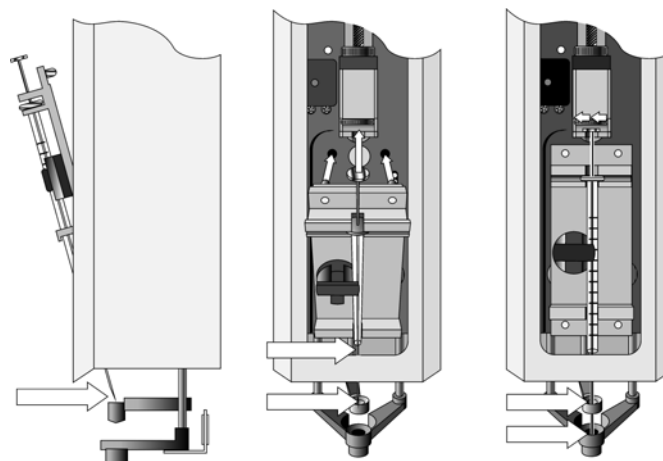

Figure 25. Installing and Removing a Syringe
- 3 If necessary, loosen the plunger retaining screw in the plunger holder (see Figure 25).